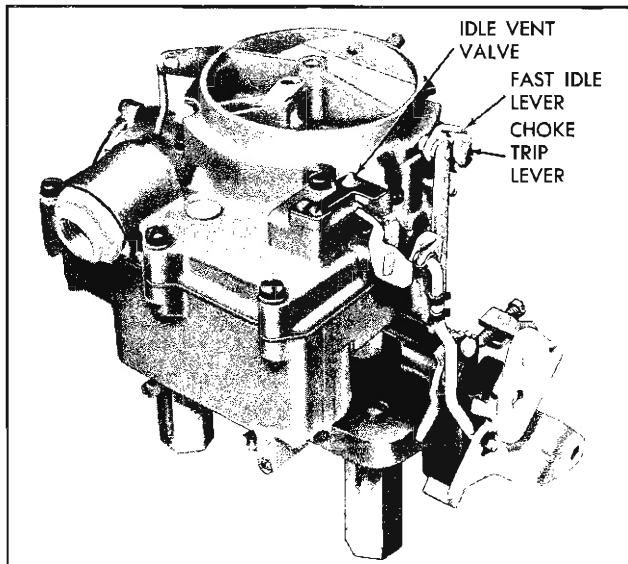

Fig. 6B-69 Rochester 2GC Carburetor
5. Remove eight cover screws (Fig. 6B-70) and lift cover from bowl (Fig. 6B-71).